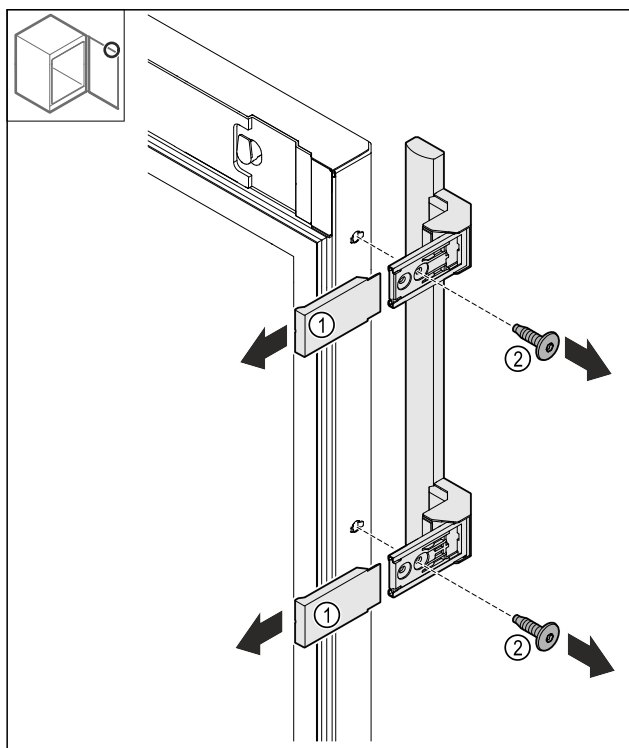

Fig. 19
- ▶ Pull off the Fig. 19 (1) covers.
- ▶ Loosen the Fig. 19 (2) screws.